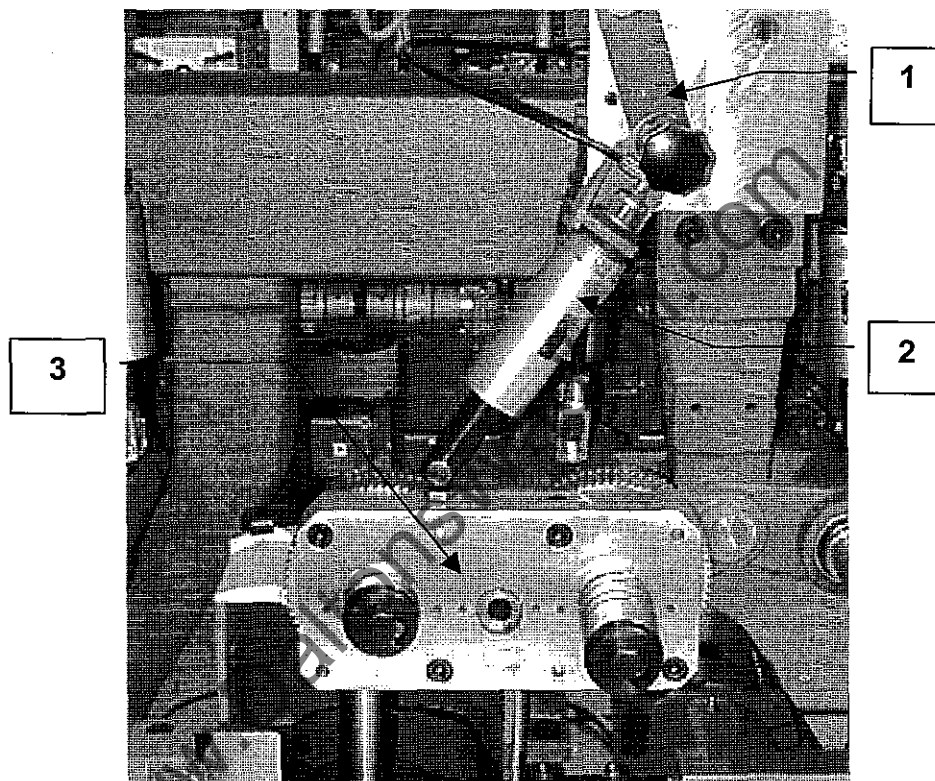

Figure 8.3
8.3 Intermediate Feed Roll (Figure 8.3)